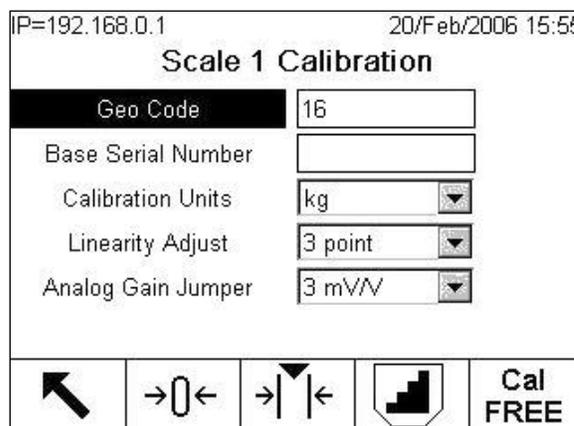

Figure F-1: Calibration Screen
2. Enter that GEO value into the GEO code parameter in Setup at Scale n > Calibration. Figure F-1 shows the Calibration screen for Scale 1.
2. Enter that GEO value into the GEO code parameter in Setup at Scale > Calibration (Figure F-1).